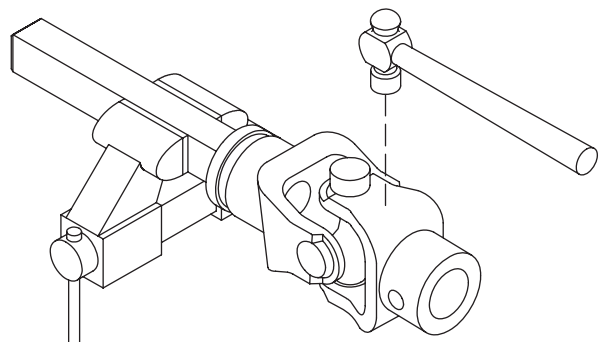

Figure 19. Remove Cups
2. With snap rings removed, support drive in vise, hold yoke in hand and tap on yoke to drive cup up out of yoke. See Figure 19.